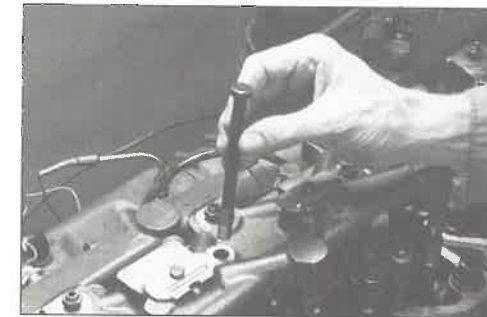

FIG. 15
Apply clean engine oil to the six (6) Jacobs engine bracket hold-down capscrews and install them through each brake housing and into the rocker shaft brackets (see Fig. 15).